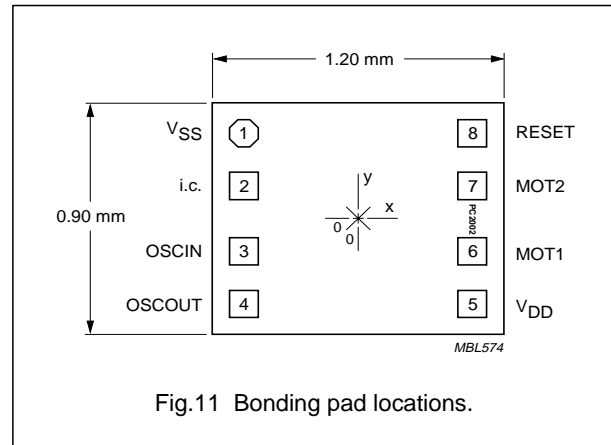

Fig.11 Bonding pad locations.
- All coordinates are referenced, in μm , to the centre of the die (see Fig.11).